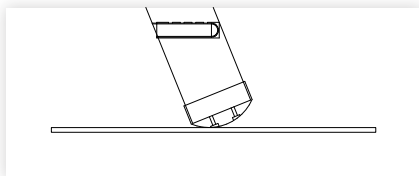

figure 11
4. Fix the rubber feet to the bottom of the ladder with the screws provided (figure 11).